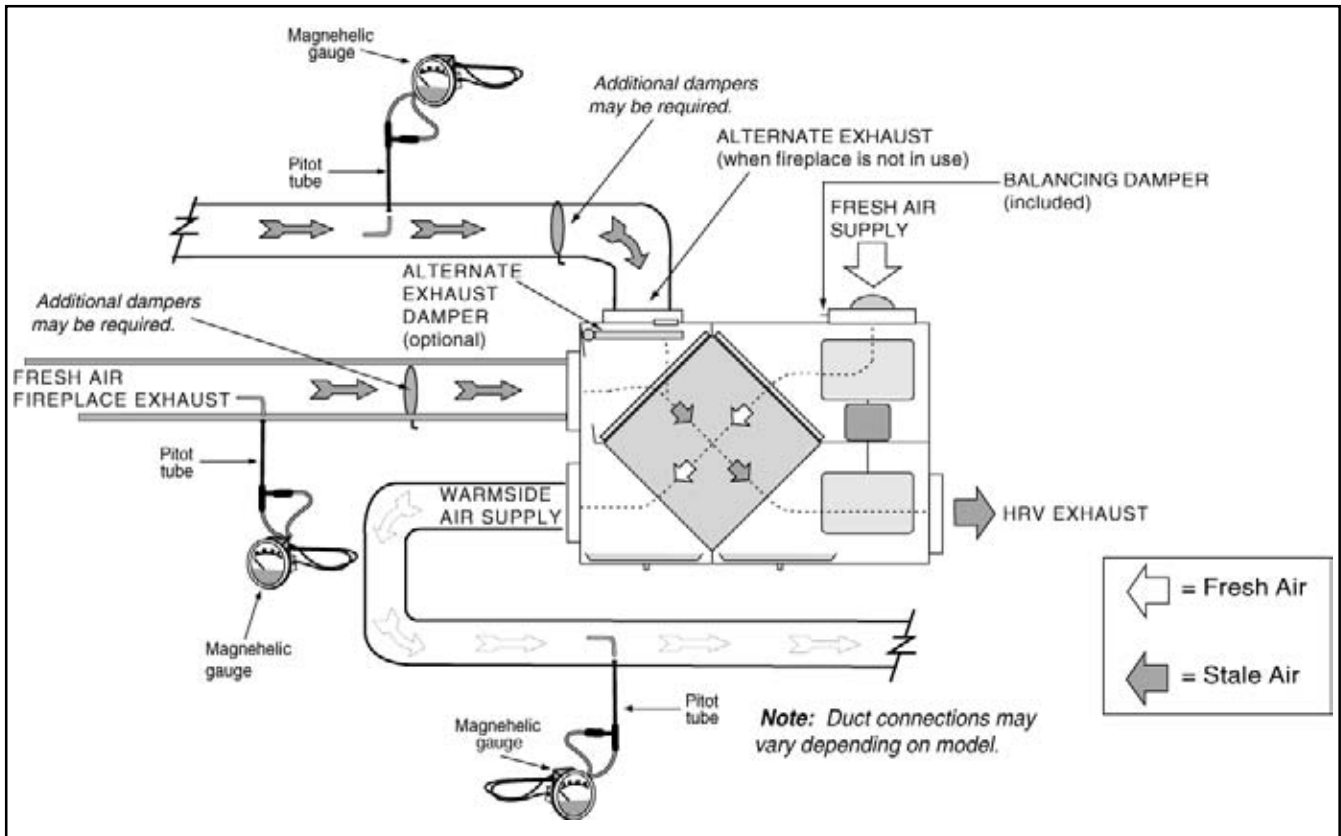

Figure 16 - Pitot Tube Balancing
3. Pitot Tube Balancing Procedure (see Figure 16)
The accuracy of the air flow reading will be affected by how close to any elbows or bends the readings are taken. Accuracy can be increased by taking an average of multiple readings as outlined in the literature supplied with the pitot tube. See Figure 16.